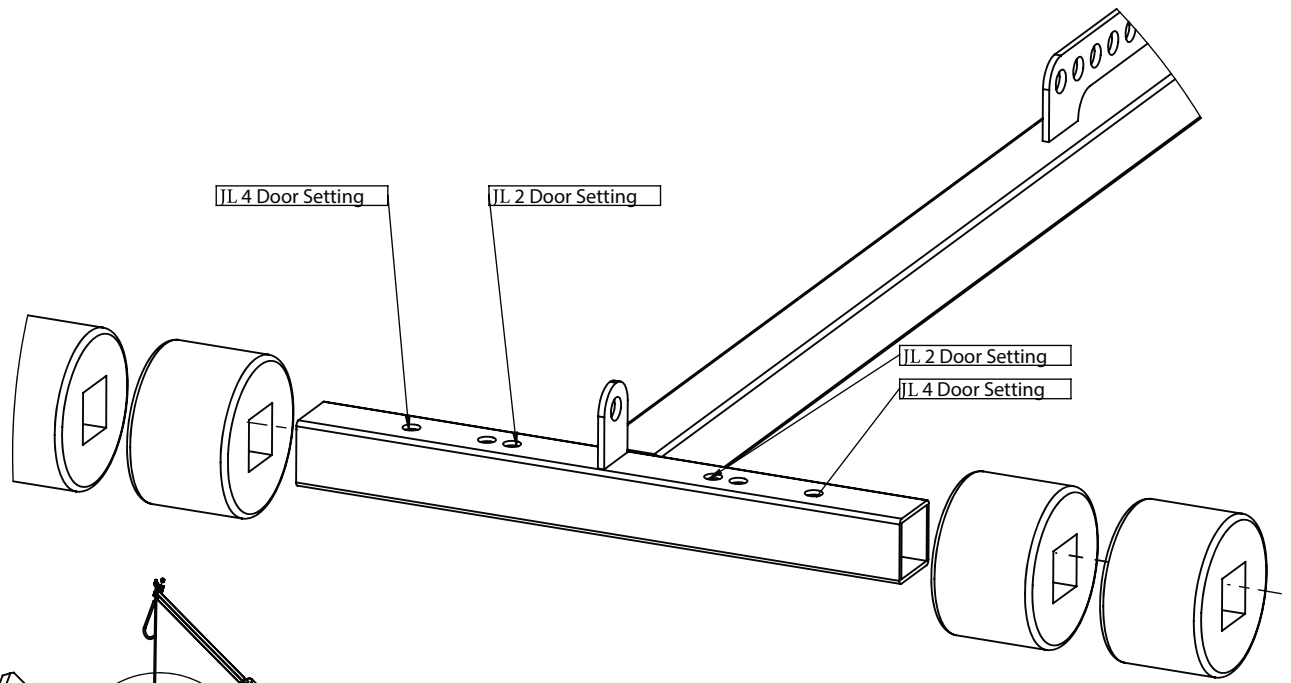

Fig. 3
- A. Locate the Metal T-Frame Bundle. Slide two of the support arms (HAT-101) into the T-shaped bar (HAT-100) moving the spring button to the appropriate holes as shown in Fig. 3